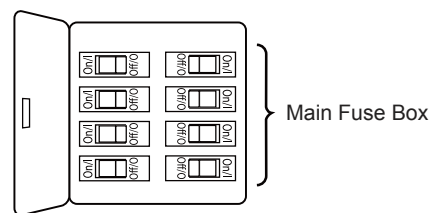
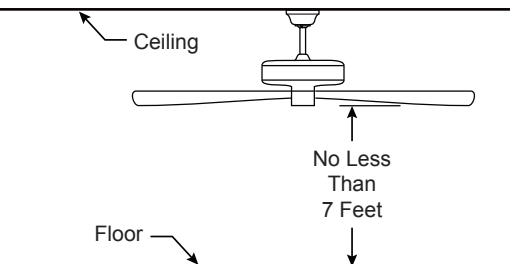
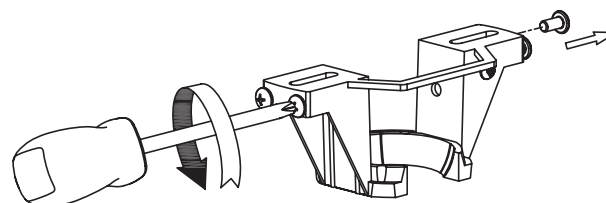

Figure 1
Figure 2
Figure 3
Your new ceiling fan will require a grounded electrical supply line of 120 volts AC, 60 HZ, 15 Amp Circuit. Electrical code requires use of a fan-rated outlet box to support the extra weight and motion associated with a ceiling fan. A fan-rated box will be labeled as such and typically supports up to a 70lb ceiling fan. Fan-Rated Outlet Boxes vary in ratings and design. Ensure the ratings of your ceiling fan outlet box meet the requirements for the ceiling fan being installed. Figure 1, Figure 2 and Figure 3 depicts different structural configurations that may be used for mounting the outlet box.
Low profile box (Figure 1)
Deep box (Figure 2)
Deep box with brace (Figure 3)
- ☐ 1. Remove and discard the five rubber motor stops from the motor assembly by removing the screws. (Figure 1)
- ☐ 2. Remove the hanger ball portion from the downrod/hanger ball assembly by loosening the set screw in the hanger ball until the ball falls freely down the downrod. Remove the pin from the downrod, then remove the hanger ball. Retain the pin and hanger ball for reinstallation in Step 7. (Figure 2)
- ☐ 3. Remove the hairpin clip and clevis pin from the bottom of the downrod. Retain the pin and clip for reinstallation in step 5. (Figure 3)
- ☐ 2. Alternating positions, remove three motor coupling screws from the motor assembly and retain the screws for Step 4. (Figure 2)
- ☐ 3. Route your fan wires through the canopy trim ring and ceiling canopy. (Figure 3)
To avoid possible fire or shock, be sure electricity is turned off at the main fuse box before hanging. (Figure 1)
The fan must be hung with at least 7' of clearance from floor to blades. (Figure 2)
- ☐ 1. Completely remove one screw from either side of the hanger bracket -- be sure it is the screw to your right when facing it -- and keep for reinstallation on page 14 or 15 (**How to Install Your Canopy Housing**). Loosen the other two screws that were not removed. (Figure 3)
To avoid possible electrical shock, be sure electricity is turned off at the main fuse box before wiring. (Figure 1)
- ☐ **1.** Slide the ceiling canopy over the mounting bracket with the two loosened screws going into the “L” slots in the canopy. Be sure all wiring is tucked into the ceiling canopy and is not pinched. Once the canopy is flush with your ceiling, turn clockwise to seat the screws into the keyed portion of the slot. Tighten the screws and install the remaining two screws removed in step 1 of page 10 (**How to Hang Your Ceiling Fan**) to secure the ceiling canopy to the hanger bracket. (Figure 1)
- ☐ **2.** Assemble the canopy screw cover, by twisting in a clockwise direction and up to the ceiling canopy. (Figure 2)
- ☐ **3.** Push the canopy trim ring up to conceal the screws, such that the mounting tabs seat into the dimpled grooves in the ceiling canopy midway between the screws. (Figure 3)
- ☐ 1. Lift the fan off the hanger bracket hook and mount your fan by sliding the ceiling canopy over the mounting bracket with the two loosened screws going into the “L” slots in the canopy. Be sure all wiring is tucked into the ceiling canopy and is not pinched. Once the canopy is flush with your ceiling, turn clockwise to seat the screws into the keyed portion of the slot. Tighten the screws. (Figure 1)
- ☐ 2. Install the remaining two screws removed in step 1 of page 10 (**How to Hang Your Ceiling Fan**) to secure the ceiling canopy to the hanger bracket. (Figure 2)
- ☐ 3. Push the canopy trim ring up to conceal the screws, such that the mounting tabs seat into the dimpled grooves in the ceiling canopy midway between the screws. (Figure 3)
1. Position the blade over the blade holder with threaded posts showing. Make sure the bottom edge of the blade is fully seated against the blade holder. With a phillips screwdriver, tighten 3/16"-24 serrated head screws with flat washers to secure the blade to the blade holder. (Figure 1)
2. Attach assembled blade holders to the motor hub using the provided screws with lock washers in the hardware bag. Make sure the screws securing the blade holders to the motor hub are tight and that the blade holders are properly seated. (Figure 2)
1. Remove the three screws from the switch cup assembly and retain screws for later. (Figure 1)
2. Securely attach the 9-pin switch cup connector to the wiring harness socket within the adapter assembly. (Figure 2)
3. Assemble the switch cup assembly onto the housing adapter with previously removed screws. (Figure 3)